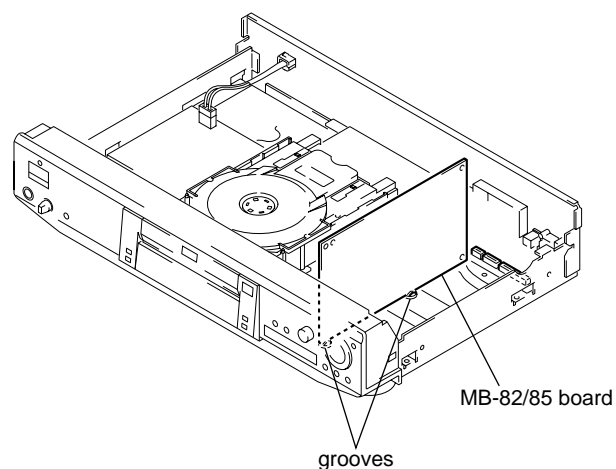

Fig. 3
- 3) Set the MB-82/85 board as shown in Fig. 3.